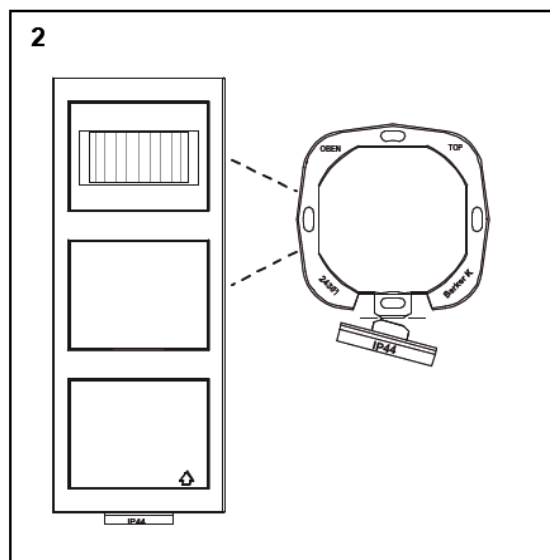

Figure 2
- If necessary, separate IP44 lug from sealing flange (Figure 2).
Only the lower sealing flange requires the integrally moulded IP44 lug (Figure 2).